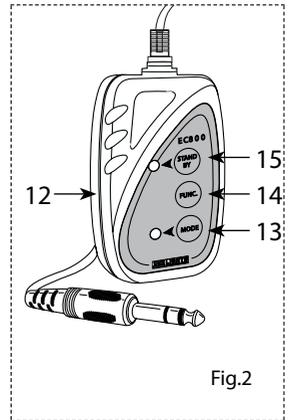

Fig.2
5. CONNECTION JACK for the remote control EC800 (fig2).
12. REMOTE CONTROL EC800 (optional) (fig.2).